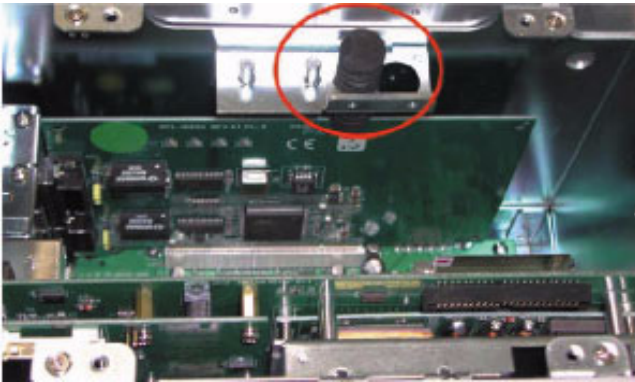

Figure 3.2: 1st Anti-Vibration Rubber
5. Screw the 1st anti-vibration rubber towards the 1st PCI card until it is fixed. (Figure 3.2).